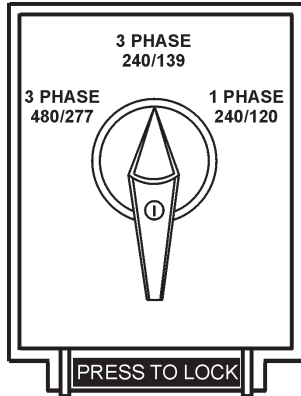

Figure 16. Voltage Selector Switch
The **voltage selector** switch (Figure 16) is located above the output terminal panel's **Hard Wire Hook-up Panel**. It has been provided for ease of voltage selection.
A wide range of voltages are available to supply voltage for many different applications. Voltages are selected by using the **voltage selector** switch (Figure 16). To obtain some of the voltages as listed in Table 7 (see below) will require a fine adjustment using the **voltage regulator (VR) control knob** located on the control panel.